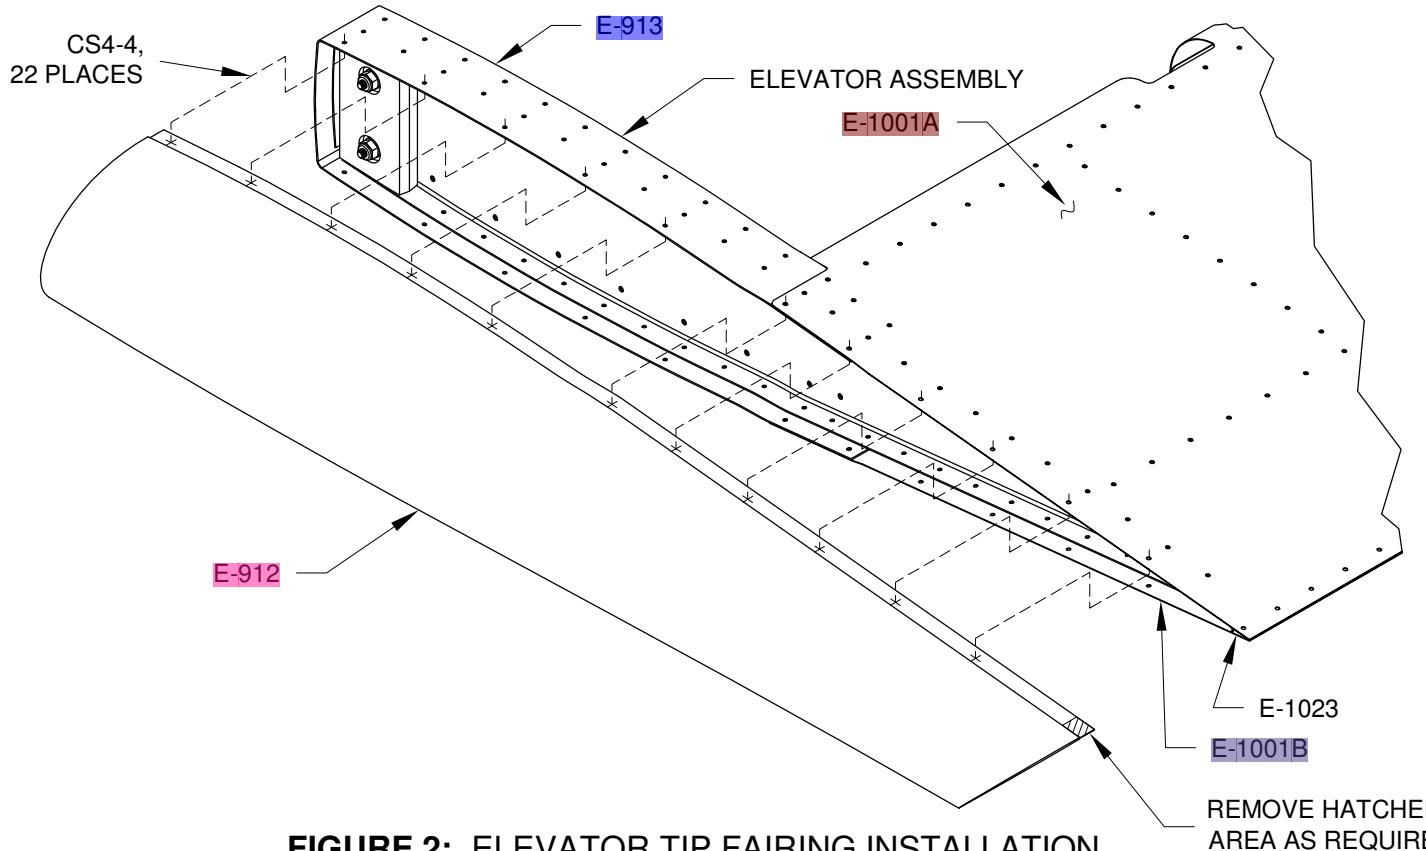

FIGURE 2: ELEVATOR TIP FAIRING INSTALLATION
Step 5: Cleco and rivet the E-912 Elevator Tip Fairing onto the elevator assembly per the callouts in Figure 2.